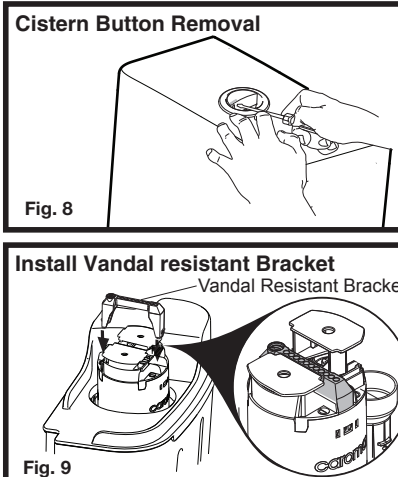
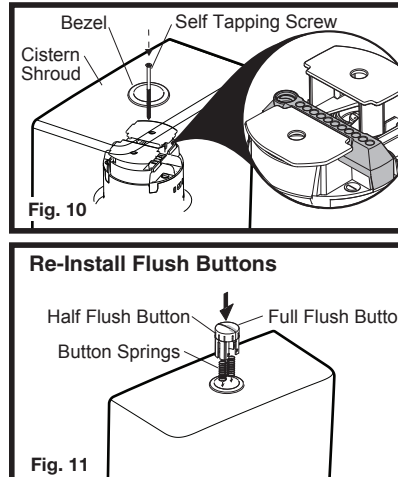

Fig. 8
Fig. 10
- 8- Remove 1/2 flush and full flush buttons from bezel as shown in Fig. 8 by depressing one button. Prise out one button, then remove the second button.
- 10- Insert Self Tapping Screw (supplied with Cistern Shroud) into centre slot of bezel and tighten screw until it secures Cistern Shroud onto Cistern, as detailed in Fig. 10. Do not overtighten. Replace springs and buttons back into place and check smooth operation of both buttons.
- 11- To access cistern for service, remove buttons as detailed in Fig. 8. Undo Self Tapping Screw shown in Fig. 10 and carefully lift off cistern shroud.